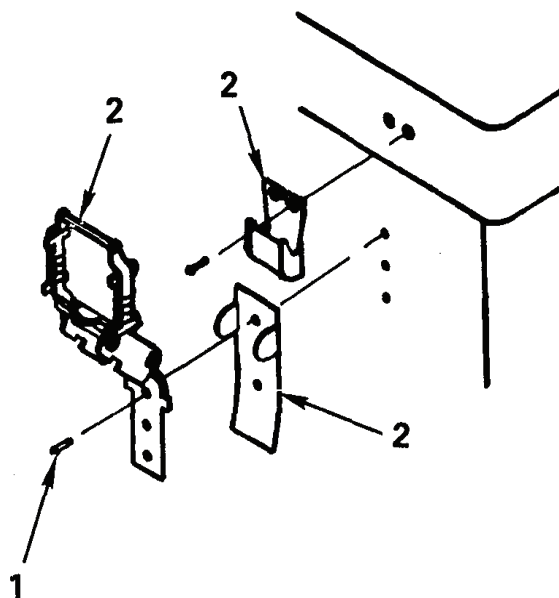

Figure 1. Latch Assembly
1. Drill off rivet head (Figure 1, Item 1) using a drill bit slightly smaller than the diameter of the rivet being removed.
3. Remove latch assembly (Figure 1, Item 2)
5. Install rivets (1) into holes and fasten with hand riveter.